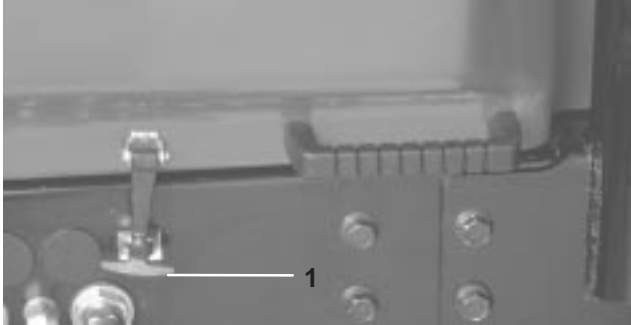

Figure 12
1. Park machine on a level surface. Release hood latch and open hood (Fig. 12).